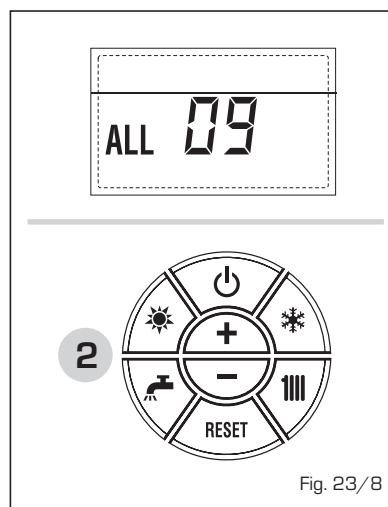

Fig. 23/8
- **AUXILIARY SENSOR ANOMALY ALARM 10** (fig. 23/9)